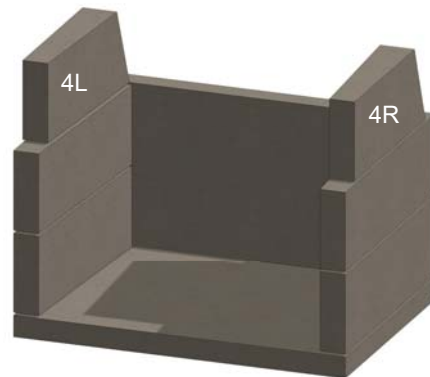

Figure 11. Upper Sidewalls
F. Install upper sidewalls (4L) and (4R), ensuring the correct piece is placed in position. The correct position is when the inner wall, outer wall and front are parallel with the middle wall pieces. Place each so the front is set back 3½ inches from the front of the middle wall piece below. See Figures 11 & 12.